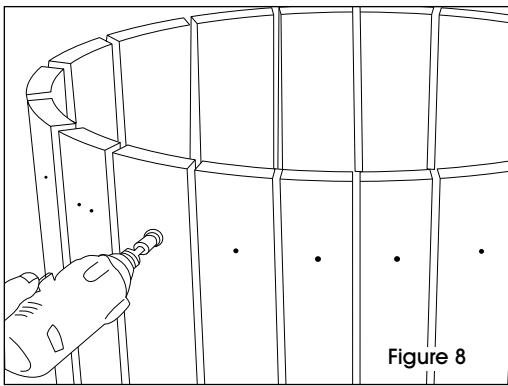

Figure 8
12. Stand the receptacle back upright. Remove the finger tight hardware from the three slats on the second receptacle. (See Figure 8)